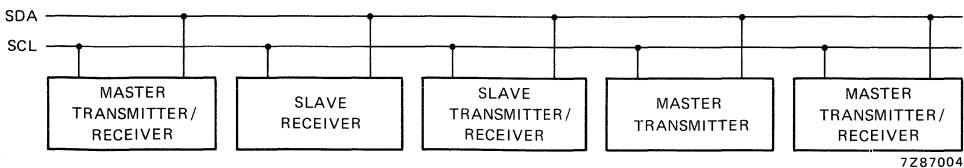

Fig.5 System configuration.
**System configuration** (see Fig.5)